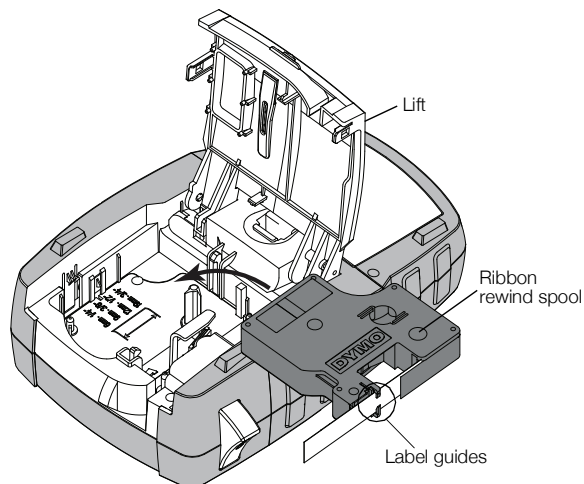

Figure 5
- 3 Insert the cartridge with the label and ribbon positioned between the label guides. See Figure 5.